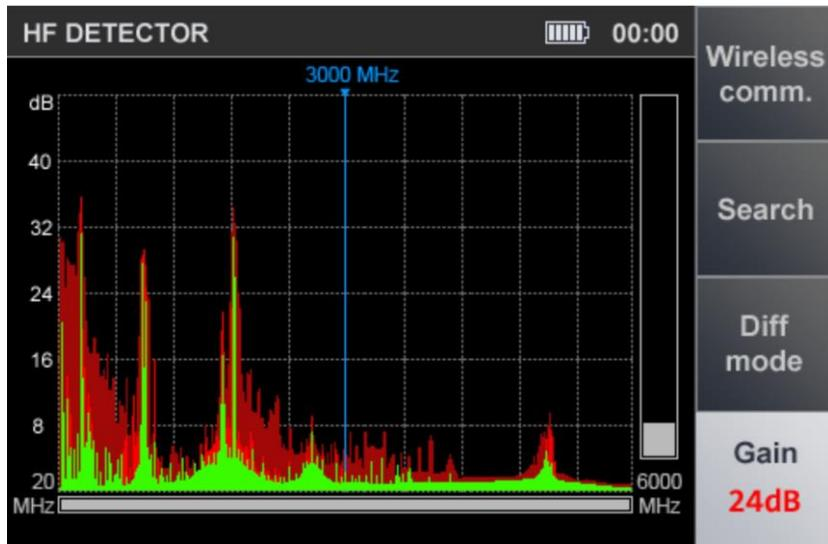

Fig.10
2. Use the keys ↕ ↕ ↔ ↔ to set the gain in dB (0, 8, 16, 24, 32, 40). The gain value will be shown in the corresponding screen field (fig.10).